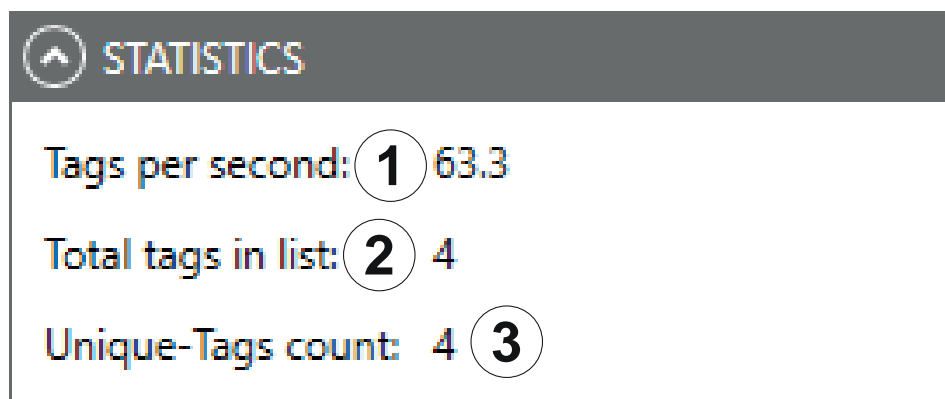

Fig. 54: Basic reading: statistics
Having selected the *ARU-CSB-ELC* (⑥ in Fig. 54 under *Options*, the lower part of the screen shows the spatial allocation of a transponder: